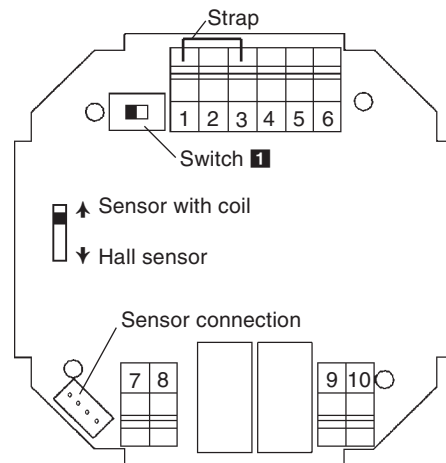
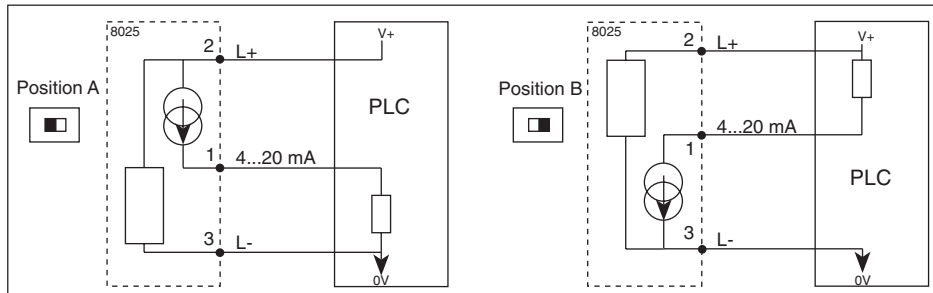

Fig. 3.8 Pin assignment of transmitter 8025 with relays
Fig. 3.9 PLC-connection
The electrical wiring ensues via 2 cable glands. Remove cover, pull cable through PG 13.5 and wire according to following pin assignment (Fig. 3.8):
**Note:** PLC-connection. Depending on the PLC-version, the switch **1** on the circuit board must be put to position A or B (see fig. 3.8 and fig. 3.9). **In this case remove the strap (see fig. 3.8).**
If the current output 4...20 mA is not used, it must be connected to L- with switch **1** in position A. For that purpose use the strap (see fig. 3.8).